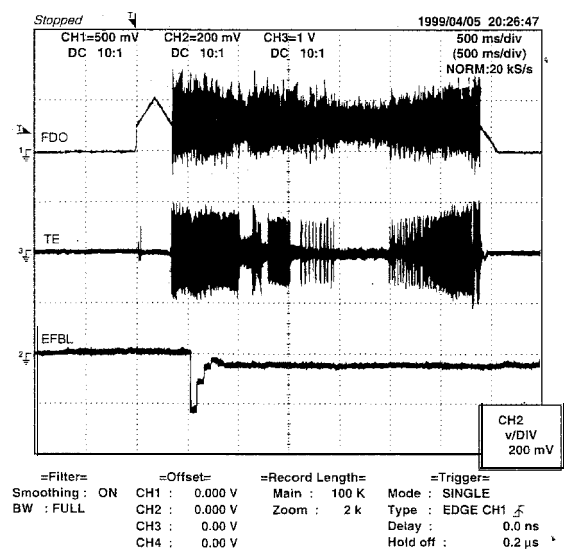

Figure 14-2
- (1) Offset adjustment (The offset voltage between the head amplifier output and the VREF reference voltage is compensated inside the IC.)
- (2) Tracking balance adjustment (waveform drawing Fig.14-2 EFBL)
- (3) Gain adjustment (The gain is compensated inside the IC so that the loop gain at the gain crossover frequency will be 0 dB.)